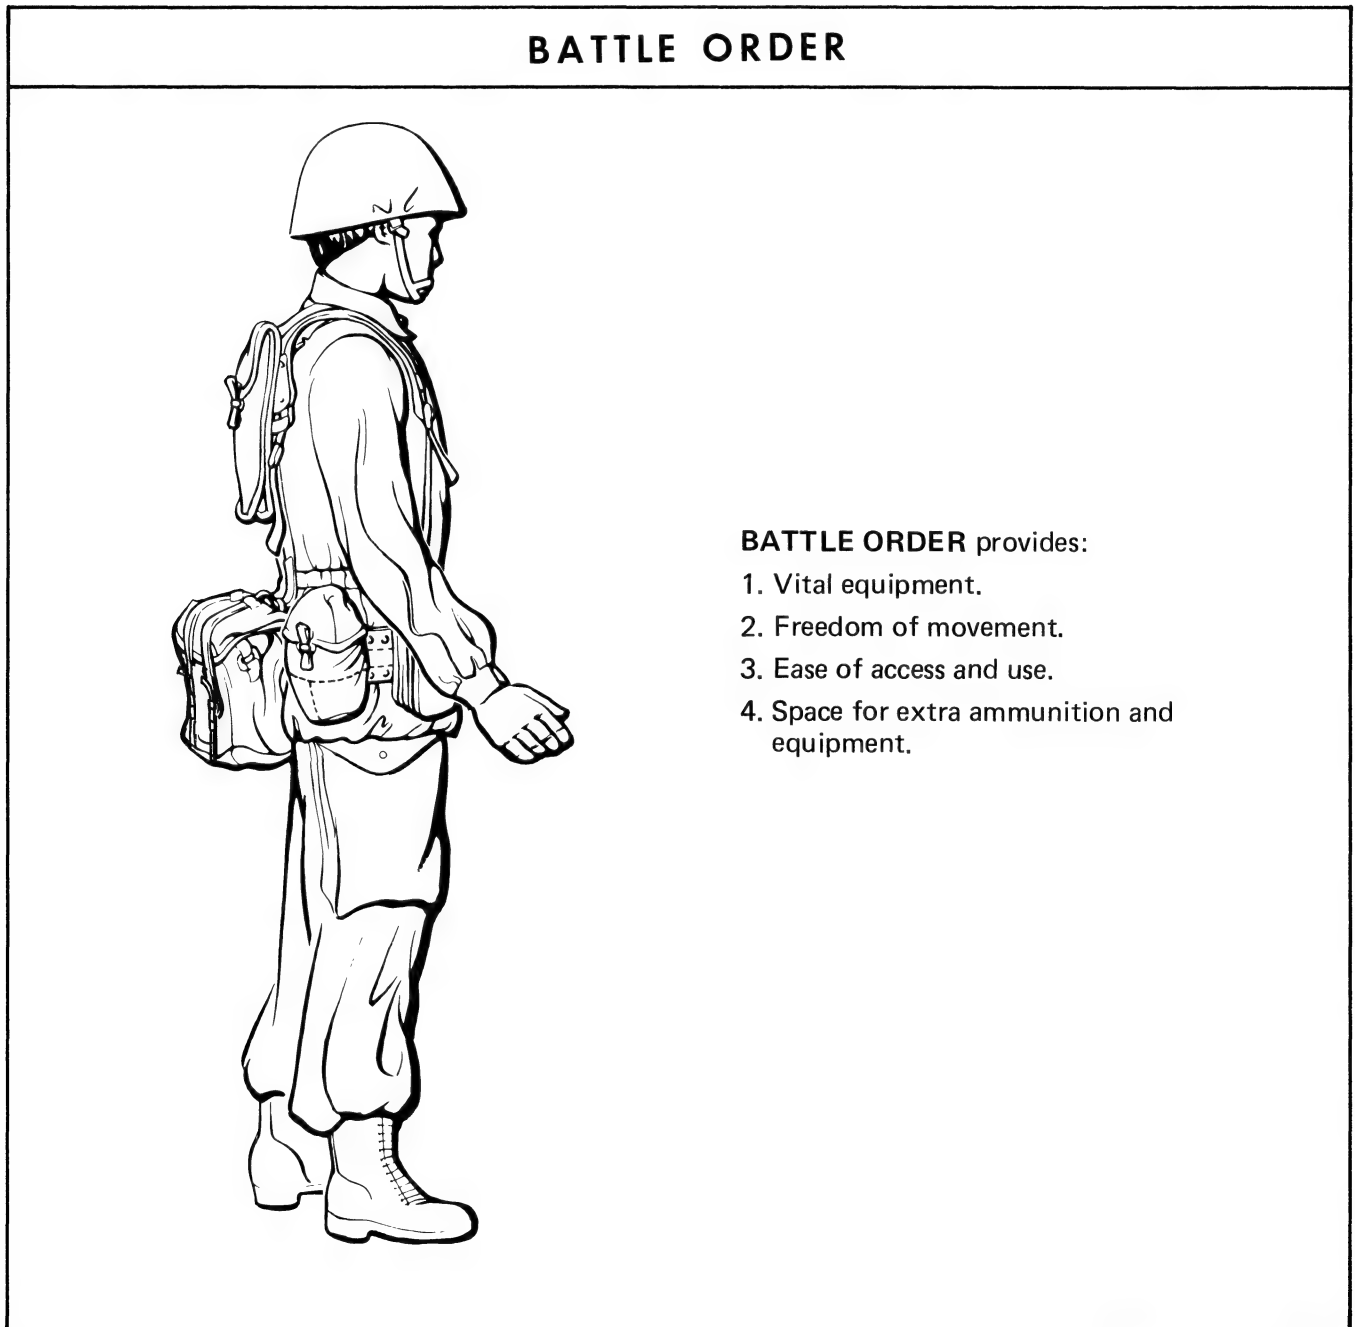

Figure 3-1 Battle Order
1. Battle Order consists of Fighting Order plus crew-served weapons and those items of ammunition, equipment, and rations necessary to support a soldier in combat for a period of time not exceeding 72 hours. The Battle Order is illustrated in Figure 3-1.